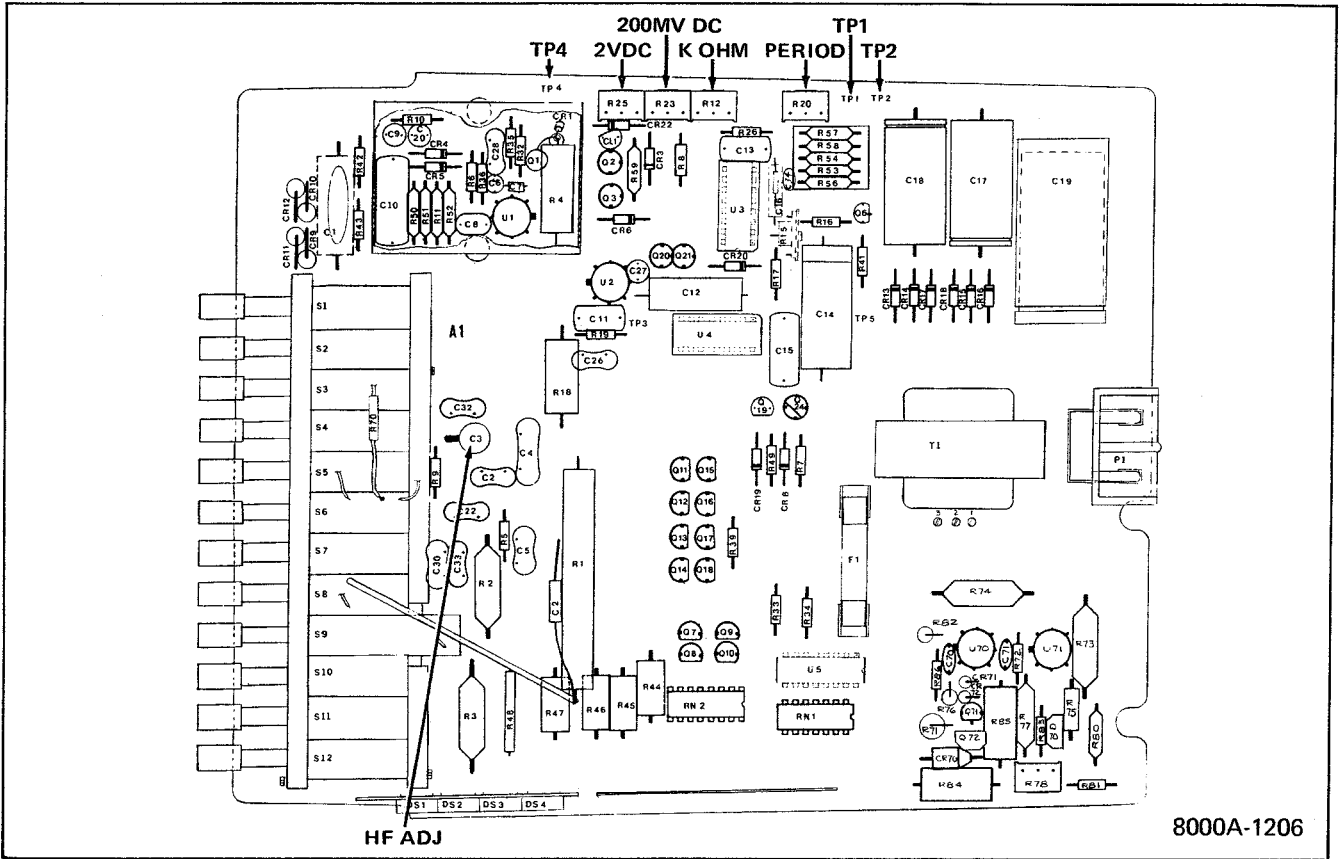

Figure 4-1. ADJUSTMENT AND TEST POINT LOCATIONS
- a. Connect the frequency counter between TP5 and TP4 (common) as shown in Figure 4-1.
- c. Using an appropriate adjusting tool, adjust R20 (PERIOD), shown in Figure 4-1 for a positive waveform portion of $100\text{ ms} \pm 5\text{ }\mu\text{s}$. Variations of the time period should be $\leq \pm 15\text{ }\mu\text{s}$.
- c. Adjust R23 (see Figure 4-1) for a readout of +190.0.
4-32. The 8000A range adjustments are accomplished in accordance with the instructions given in Table 4-3. Perform each adjustment and/or check in the order listed. The shaded areas of the table separate the adjustments from the checks. Refer to Figure 4-1 for the location of the specified adjustment. The following test equipment from Table 4-1 is used to provide the input specified for each function.